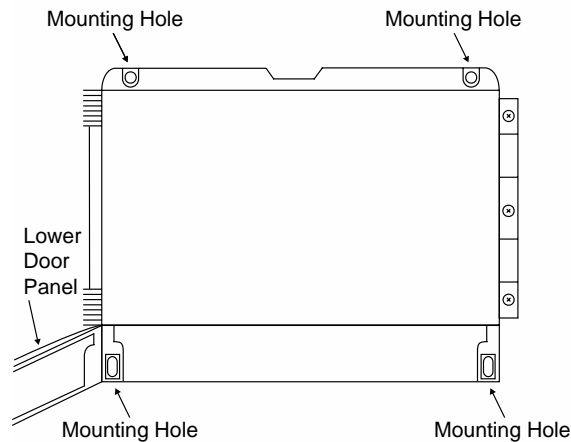

Figure 1. Meter Mounting Holes Location
- Prepare a section of wall approximately 11" x 13" (280 mm x 330 mm) for meter mounting by marking with a pencil the mounting holes (shown in *Figure 1*) on the wall.